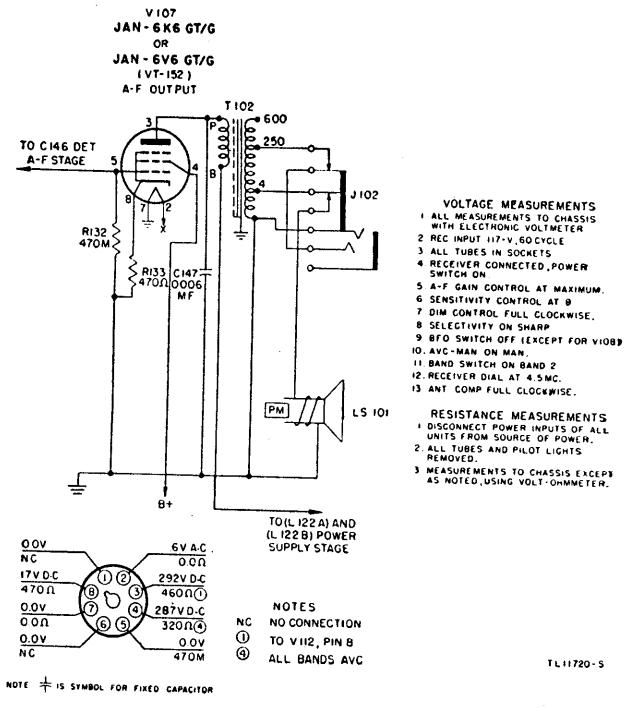

Figure 21. Radio Receiver BC-1147-(*), a-f output stage.
42. A-F Output Stage (fig. 21)